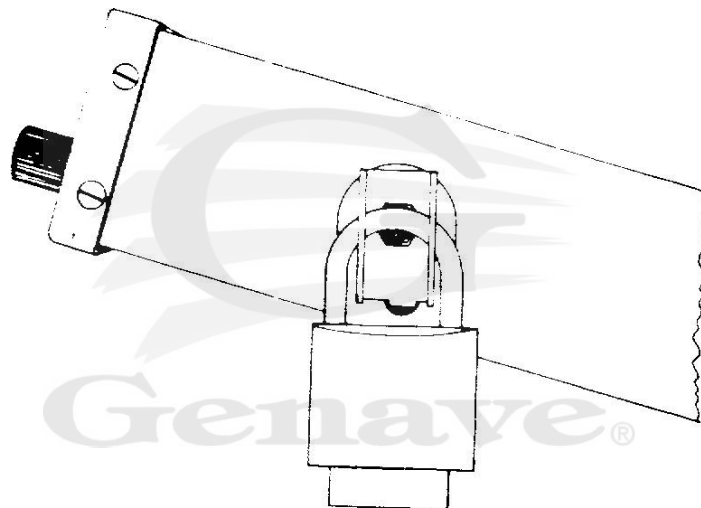

Figure 2-4. Lock Placement
4. Attach a padlock through holes in the sides of mounting lock, as shown in Figure 2-4; then, latch padlock to prevent removal of unit from mounting bracket.